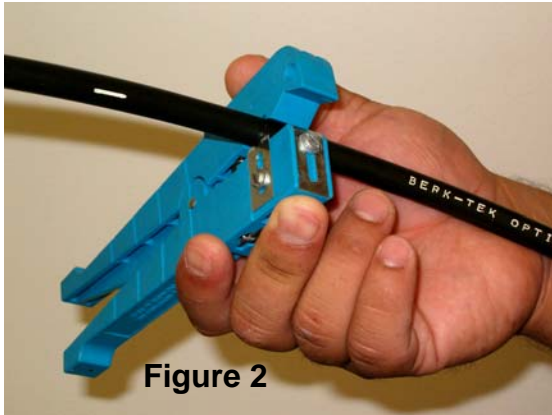

Figure 2
3. The amount of buffer tube required is specified in the installation procedures of your optical hardware. Reference these instructions prior to cutting the cable. Position the tool with the cutting blade at the distance from the cable end that will strip off the cable jacket and expose the required length of optical buffer tube. See **Figure 2**.